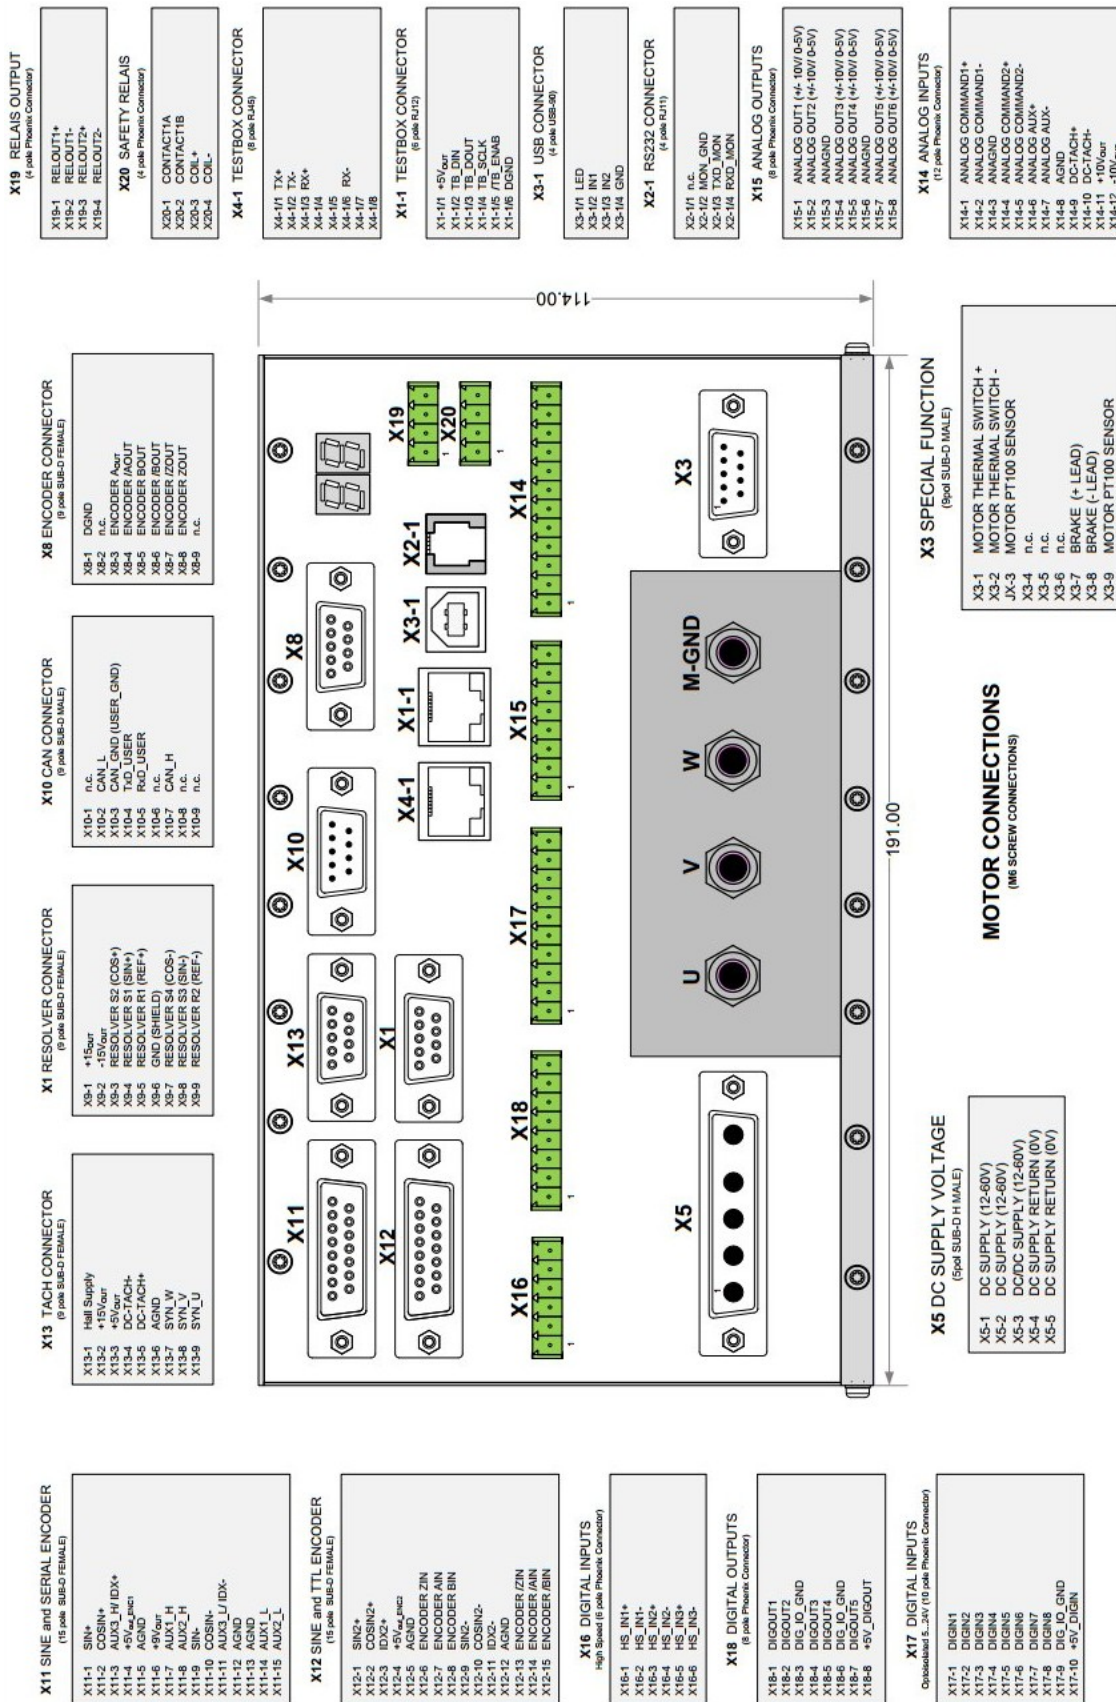

Figure 5.4: Connectors for SWM7-48/100 (M6 motor connectors)
- incl. the temperature supervision, see Fig. 5.4.